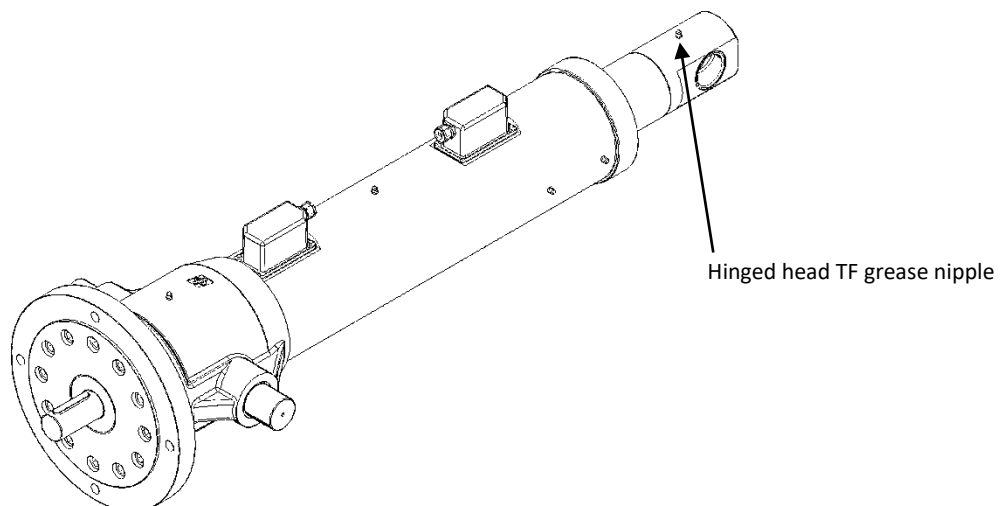

Figure 9.4 – Hinged head TF lubrication
- ⚠ THE LUBRICATION OF HINGED HEAD (TF) IS REQUIRED ONLY FOR ILA A/B 100-150-200 ACTUATORS.
- Relube the hinged head using proper grease nipples, as shown on Fig. 9.4.